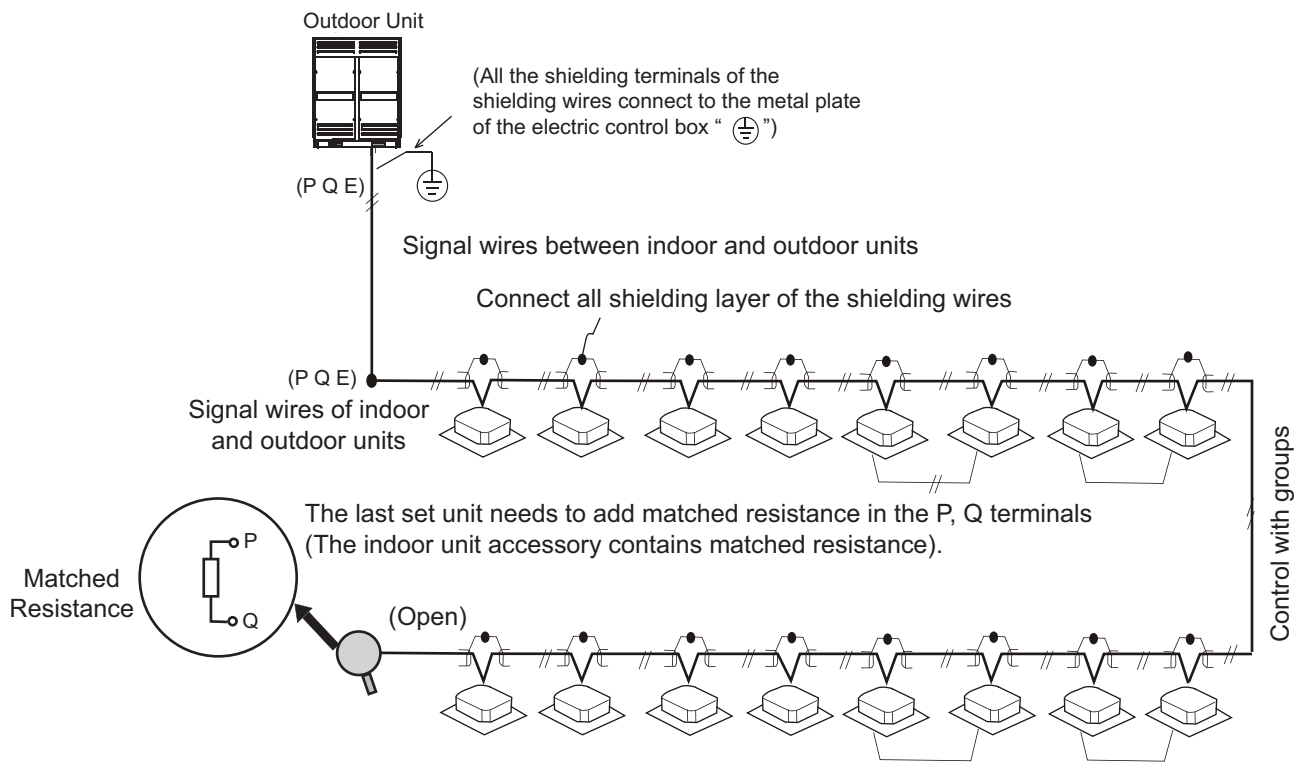

Fig. 7-1
- 2) Inter-connect all the shielding nets of shielding line, and at last be together connect to the metal plate grounding "⊕" (refers to Fig.7-1).